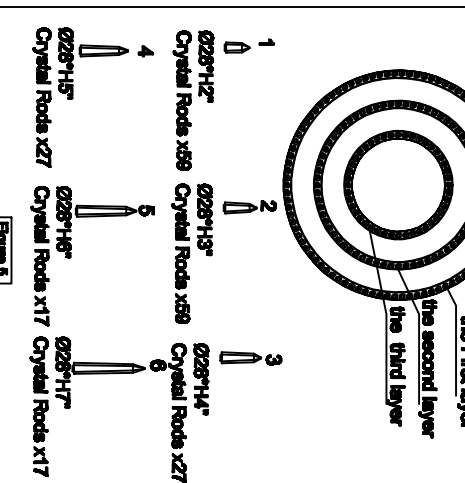

Figure 6
A. Put 84 crystals (H2-X20PCS, H3-X20PCS, and H4-X11PCS, H5-X11PCS, H6-X6PCS, H7-X6PCS) in the first layer with random sizes of crystals like Figure 6 in random order
B. Put 68 crystals (H2-X20PCS, H3-X20PCS, and H4-X6PCS, H5-X6PCS, H6-X6PCS, H7-X6PCS) in the second layer with random sizes of crystals like Figure 6 in random order
C. Put 44 crystals (H2-X9PCS, H3-X9PCS, and H4-X6PCS, H5-X6PCS, H6-X6PCS, H7-X6PCS) in the third layer with random sizes of crystals like Figure 6 in random order